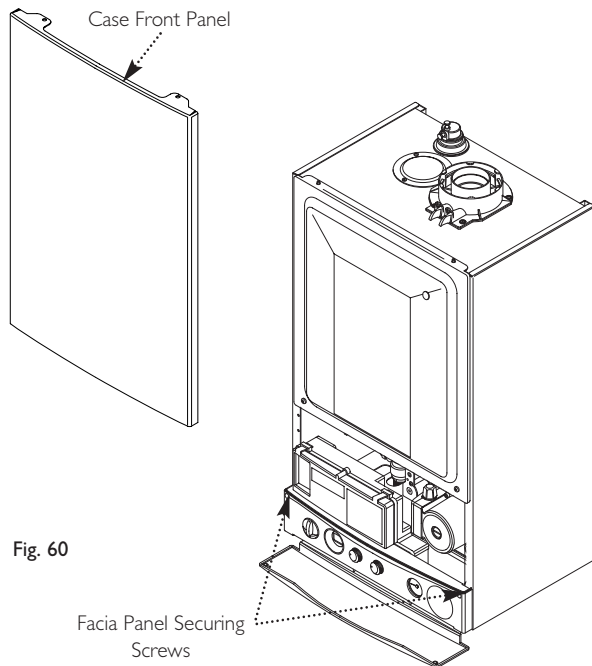

Fig. 60
3. Slacken the screws securing the fascia panel. Lift the outercase panel so that its securing tabs are clear of the fascia. Remove the panel, allowing the fascia to hinge down (Fig. 60).